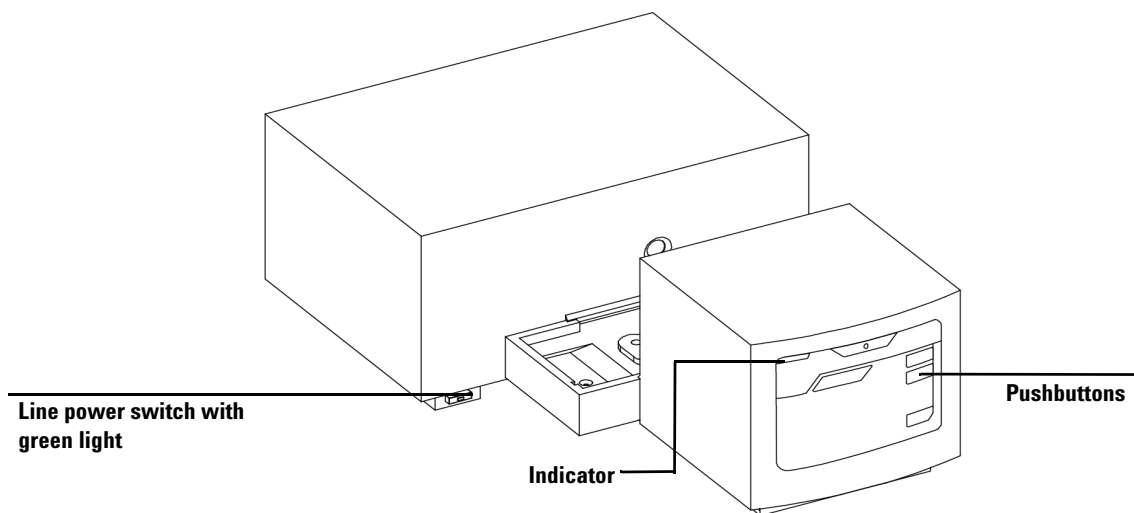

Figure 1 Front view of the Agilent Cary 8454 UV-Visible spectrophotometer
The spectrophotometer is 34.4 cm (13.5 inches) wide, 56.0 cm (22.0 inches) deep and 18.5 cm (7.3 inches) high (see Figure 1 on page 22). It weighs 14 kg (30.86 lbs) and will fit on almost any desk or laboratory bench. It needs an additional 2.5 cm (1.0 inches) of space on either side to allow for the circulation of air for cooling, and approximately 8 cm (3.1 inches) in the rear for electrical connections.
The front view of the spectrophotometer is shown in Figure 1 which shows the sample compartment open. Unlike conventional instruments the UV-Visible spectrophotometer does not suffer from ambient stray light. The open sample area makes it easier to access it generally and to connect tubing to a flow cell or thermostatable cell holder. The spectrophotometer is shipped with the standard single-cell cell holder already in place. Standard and accessory cell holders can be removed and replaced in seconds with few or no tools.
- 2** Make sure the power switch of the spectrophotometer is in the off position, that is, the pushbutton stands out and the LED inside the switch is off, see Figure 1.